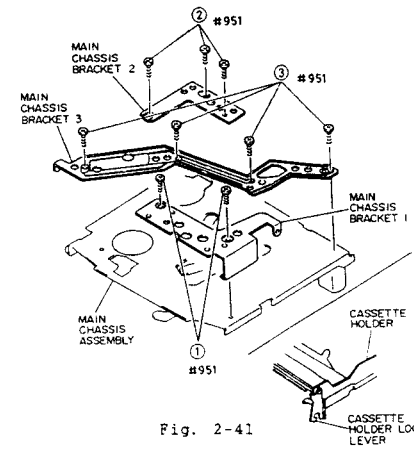

Fig. 2-41
- #### 3-4-1. Main Chassis Bracket (1), (2), (3)
- Note: Lower the cassette holder to lock it when removing main chassis bracket (1), (2) and (3).
- 1) Remove two (2) screws holding the main chassis bracket (1). (See Fig. 2-41)
- 2) Remove three (3) screws holding the main chassis bracket (2).
- 3) Remove four (4) screws holding the main chassis bracket (3).